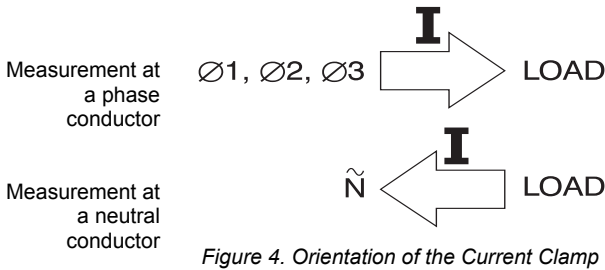

Figure 4. Orientation of the Current Clamp
5. Make sure that the arrow marked on the clamp jaw points toward the load for phase measurements or away from the load (toward the source) for neutral measurements. (See Figure 4.)